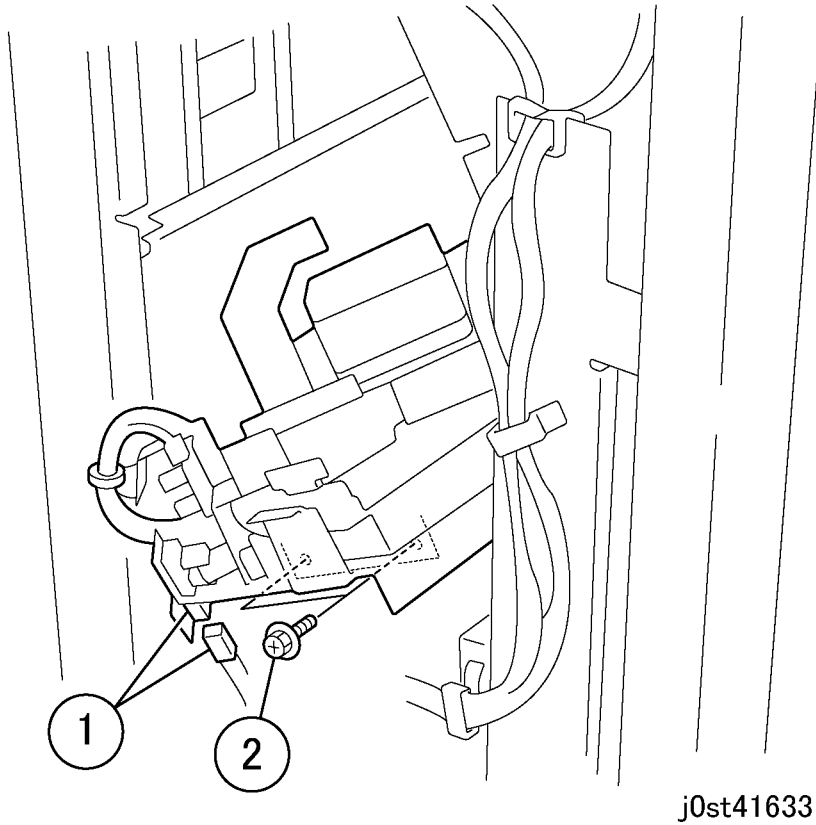

Figure 5 Removing the screws
6. Remove the screws. (Figure 5)